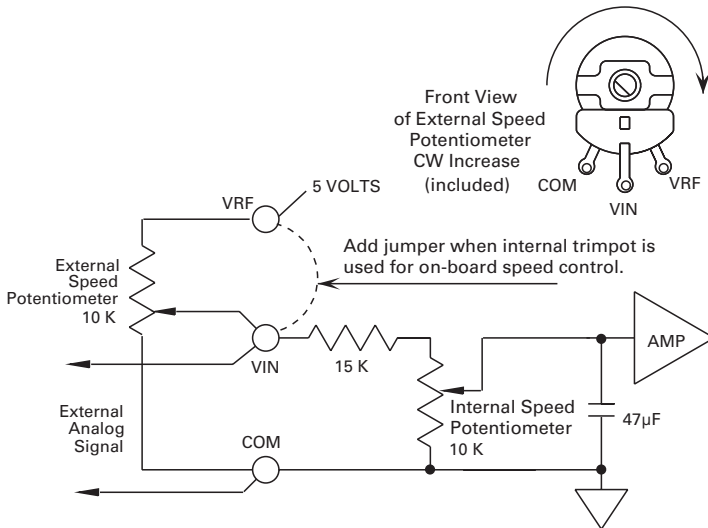

Figure 4 - Internal and External Speed Potentiometer Connections
4. Refer to Figure 4 and insert the potentiometer leads into the interface connector as follows:
Motor speed can be controlled by applying a 0 to 5 VDC analog voltage across the VIN and COM terminals of the interface connector J2. Refer to Figure 4. Speed is increased by increasing the voltage level applied to VIN (Pin J2-2). 0 VDC = 0 RPM; 5 VDC = Max. RPM. VIN=J2-2; COM=J2-3.
In order for the MAX potentiometer to function as a speed control, a jumper must be placed across terminals VRF and VIN on the interface connector as indicated by the dashed line in Figure 4. Form a jumper from a short length of wire terminated on each end with the pins supplied with the interface connector.